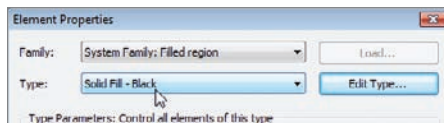

FIGURE 12.24 Changing the region to Solid Fill - Black
2. In the Properties dialog, click the Edit Type button and change the Type to Solid Fill - Black, as shown in Figure 12.24.